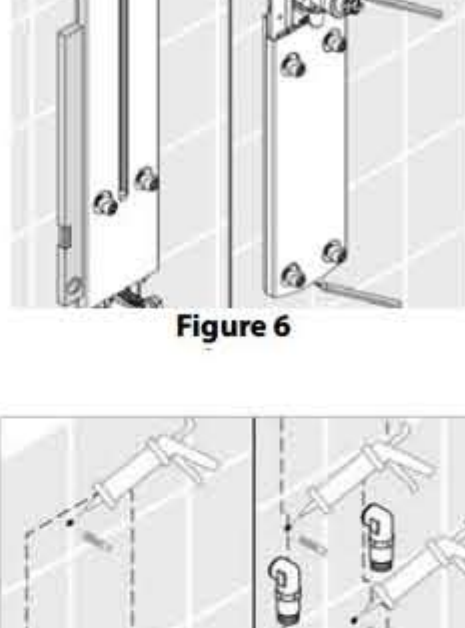

Figure 6
- With a helper holding the panel in place, mark the positions of the screw holes. See Figure 6.